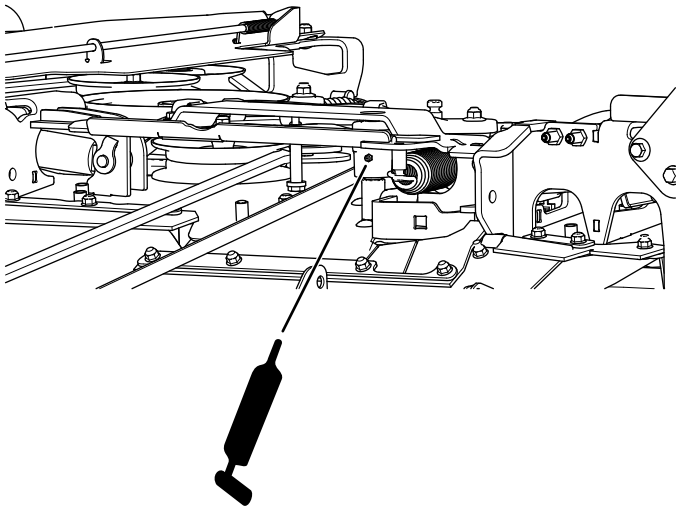

Figure 38
3. Grease the mower deck idler-pulley pivot until grease comes out the bottom (Figure 38).